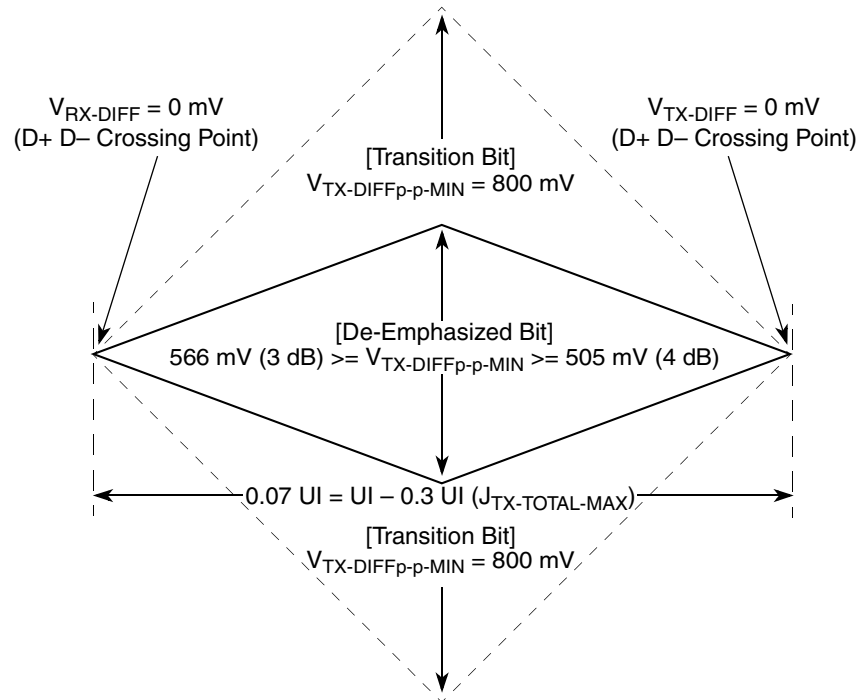
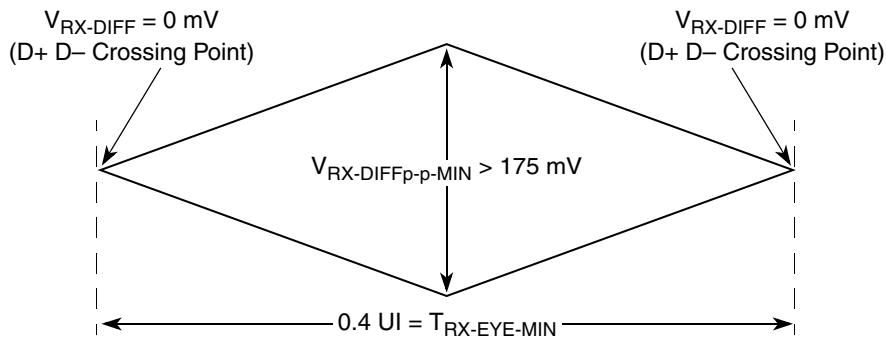
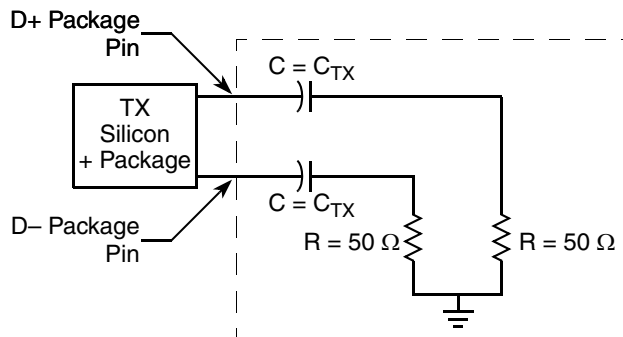

Figure 48. Minimum Transmitter Timing and Voltage Output Compliance Specifications
Figure 49. Minimum Receiver Eye Timing and Voltage Compliance Specification
Figure 50. Compliance Test/Measurement Load
2. Specified at the measurement point into a timing and voltage compliance test load as shown in Figure 50 and measured over any 250 consecutive TX UIs. (Also see the transmitter compliance eye diagram shown in Figure 48.)
4. The transmitter input impedance shall result in a differential return loss greater than or equal to 12 dB and a common mode return loss greater than or equal to 6 dB over a frequency range of 50 MHz to 1.25 GHz. This input impedance requirement applies to all valid input levels. The reference impedance for return loss measurements is 50 Ω to ground for both the D+ and D– line (that is, as measured by a vector network analyzer with 50- Ω probes—see Figure 50). Note that the series capacitors C_{TX} is optional for the return loss measurement.
5. Measured between 20%–80% at transmitter package pins into a test load as shown in Figure 50 for both $V_{\text{TX-D+}}$ and $V_{\text{TX-D-}}$.
The TX eye diagram in Figure 48 is specified using the passive compliance/test measurement load (see Figure 50) in place of any real PCI Express interconnect +RX component.
- Specified at the measurement point and measured over any 250 consecutive UIs. The test load in Figure 50 must be used as the RX device when taking measurements (also see the receiver compliance eye diagram shown in Figure 49). If the clocks to the RX and TX are not derived from the same reference clock, the TX UI recovered from 3500 consecutive UI must be used as a reference for the eye diagram.
- The receiver input impedance shall result in a differential return loss greater than or equal to 15 dB with the D+ line biased to 300 mV and the D– line biased to –300 mV and a common mode return loss greater than or equal to 6 dB (no bias required) over a frequency range of 50 MHz to 1.25 GHz. This input impedance requirement applies to all valid input levels. The reference impedance for return loss measurements for is 50 Ω to ground for both the D+ and D– line (that is, as measured by a vector network analyzer with 50- Ω probes—see Figure 50). Note: that the series capacitors CTX is optional for the return loss measurement.
The RX eye diagram in Figure 49 is specified using the passive compliance/test measurement load (see Figure 50) in place of any real PCI Express RX component.
Note: In general, the minimum receiver eye diagram measured with the compliance/test measurement load (see Figure 50) is larger than the minimum receiver eye diagram measured over a range of systems at the input receiver of any real PCI Express component. The degraded eye diagram at the input receiver is due to traces internal to the package as well as silicon parasitic characteristics which cause the real PCI Express component to vary in impedance from the compliance/test measurement load. The input receiver eye diagram is implementation specific and is not specified. RX component designer must provide additional margin to adequately compensate for the degraded minimum receiver eye diagram (shown in Figure 49) expected at the input receiver based on some adequate combination of system simulations and the return loss measured looking into the RX package and silicon. The RX eye diagram must be aligned in time using the jitter median to locate the center of the eye diagram.
The reference impedance for return loss measurements is 50. to ground for both the D+ and D– line (that is, as measured by a vector network analyzer with 50-Ω probes—see Figure 50). Note that the series capacitors, CTX, are optional for the return loss measurement.
The AC timing and voltage parameters must be verified at the measurement point, as specified within 0.2 inches of the package pins, into a test/measurement load shown in Figure 50.